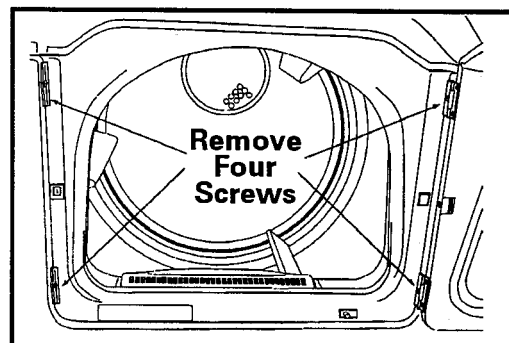

Figure 5-2
1. Open the door and remove the four screws along the inside lip of the door opening, (*See Figure 5-2*). Two screws are located vertically on either side of the door opening. These screws secure the front panel to the front shroud assembly.